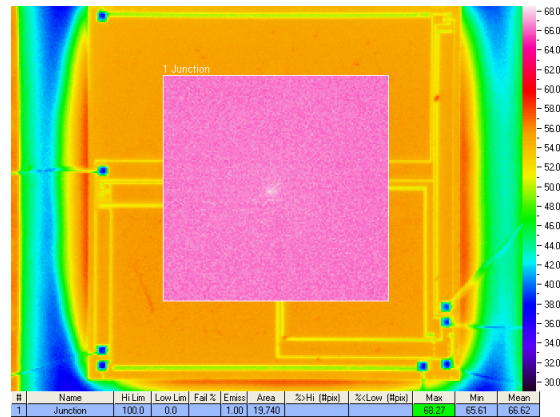

Figure 4 – Junction temperature measurement
5. The device is powered and the maximum temperature measured near the junction is recorded (see Figure 4).